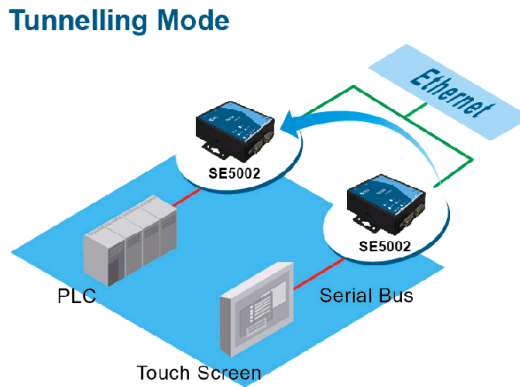

Fig. 4. Tunneling Mode
**Tunneling Mode(Pair Connection)** : The tunneling mode is used for multiple serial devices to “talk” to each other through SE 5002’s and their Ethernet connections (Fig 4 Tunneling Mode). This mode is particularly useful when two serial devices are far away, because their communication distance is limited to 15 m.